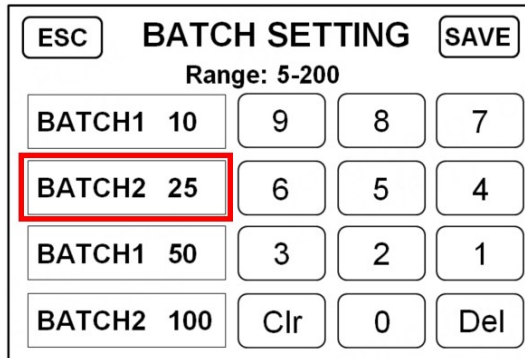

Figure 29
5) Touch "BAT^{CH} 25" and the button changes from gray to white, as shown in Figure 29 below: